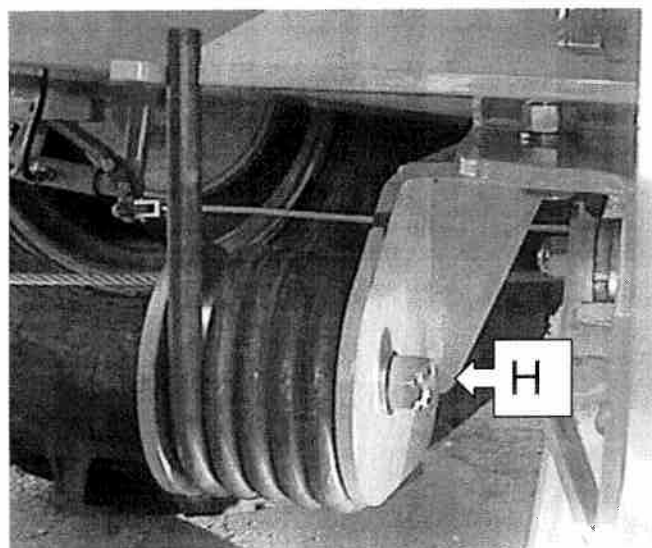

Fig.6
The impeller is now free to pivot about the bottom two bolts (E) and so great care should be taken to lower the impeller down a suitable a spring system (H); (See Fig.6) is provided to assist with lifting and lowering the impeller.
- (6) Once supported in its lowered position the drop-down impeller will now allow access to the total area of the door to remove any offending obstacle or obstruction from the hopper.
- (7) Having removed the blockage, the reverse procedure must be followed to lift and set the impeller back in it's previous working position. See Section 6.1 for the correct setting.
- (8) Tighten up all bolts, which were loosened or removed.